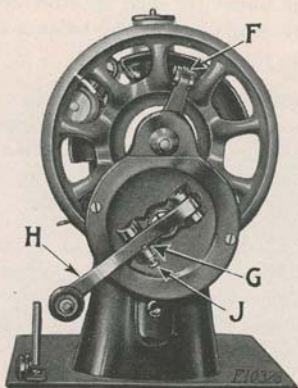

FIG. 3. END VIEW OF MACHINE 15-89 SHOWING THE HAND DRIVING ATTACHMENT
After releasing the balance wheel, turn the lever (H, Fig. 3) of the hand driving attachment over from you, continuing the motion thus begun until a regular and easy movement is acquired.
NOTE: To release the lever (H) from the socket (G) it is necessary to first withdraw the plunger (J, Fig. 3.)